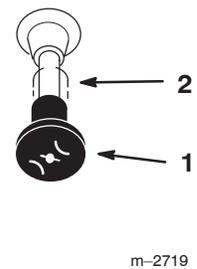

Figure 10
7. After the engine starts, gradually move the choke to the Off position (Fig. 10). If the engine stalls or hesitates, move the choke back to the on position for a few seconds. Then move the throttle lever to desired setting. Repeat this as required.